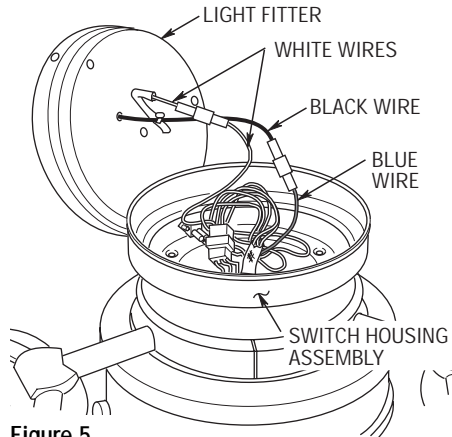

Figure 5
- 7. Connect the white wires from the light fitter to the white wire in the switch housing (Figure 5). Connect the black wire from the light fitter to the blue wire in the switch housing.